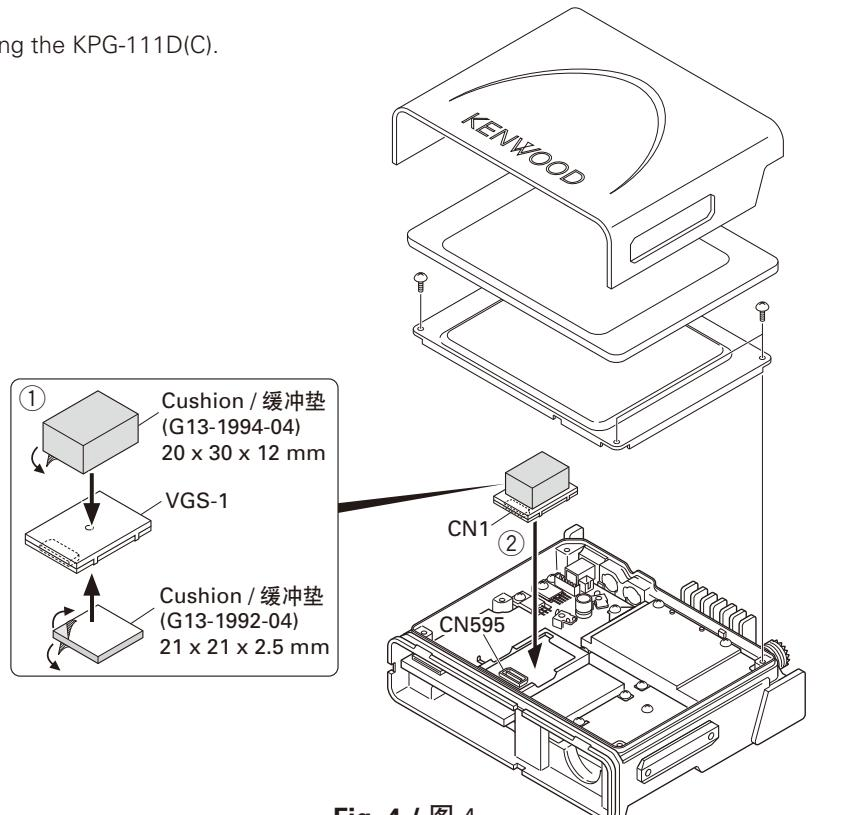

Fig. 4 / 图 4
2. Attach two cushions to VGS-1 as shown in Figure 4. (①)